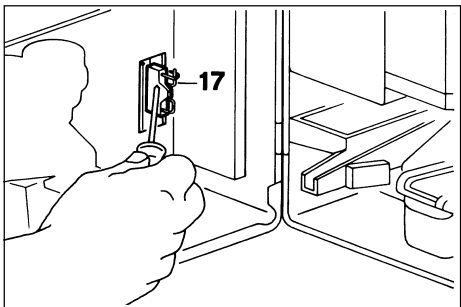

Fig. 32
- The machine can be programmed with an automatic rinsing program which rinses hot water through all the lines. The period of time between rinses can be programmed (see the 7P programmer manual). This function can be enabled by closing the jumper (17) on the electronic board (see the enlargement of Fig. 32).